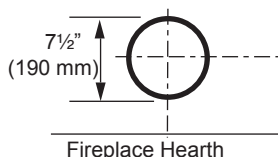

Figure 28 - Locate vent opening on wall.
Locate vent opening on the wall. It may be necessary to first position the fireplace and measure to obtain hole location. Depending on whether the wall is combustible or noncombustible, cut opening to size. *Figure 28* (For combustible walls first frame in opening.)
Combustible Walls: Cut a 9 5/8" H x 9 5/8" W (244 x 244 mm) hole through the exterior wall and frame as shown. *Figure 28*
1. Establish vent hole through the wall. *Page 19, Figure 28*